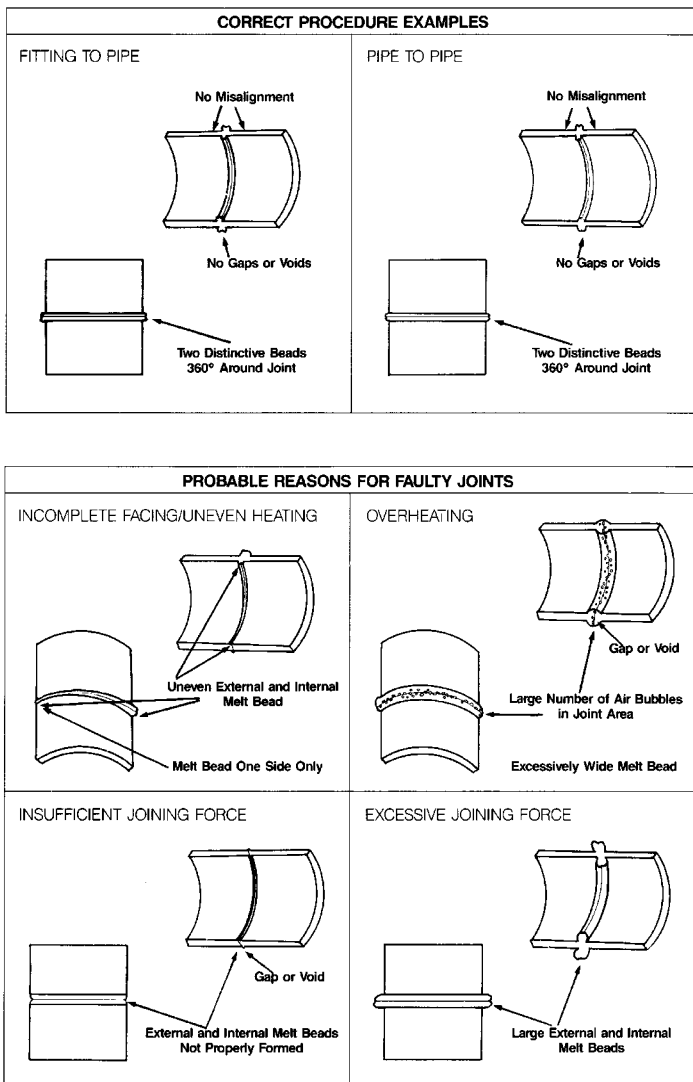

FIGURE 1 Melt Bead Examples
2. Compare the external melt bead to the examples shown in *Figure 1*.
5. If the weld is faulty in appearance, check the probable reason using the examples shown in *Figure 1* and make another weld.